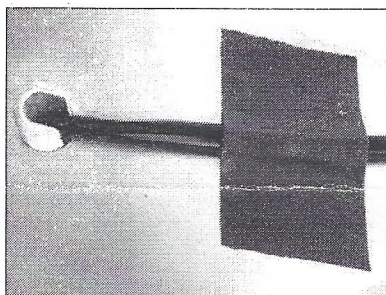

FIGURE 2: BOTTOM SIDE INSTALLATION SURFACE
9. Gently pull cables downward, then horizontally into the cable relief slot as shown in FIGURE 2. **NOTE:** It may help to temporarily tape the cables to the bottom side of the mounting surface in order to hold them in the slot location until the nut is completely fastened with proper torque.